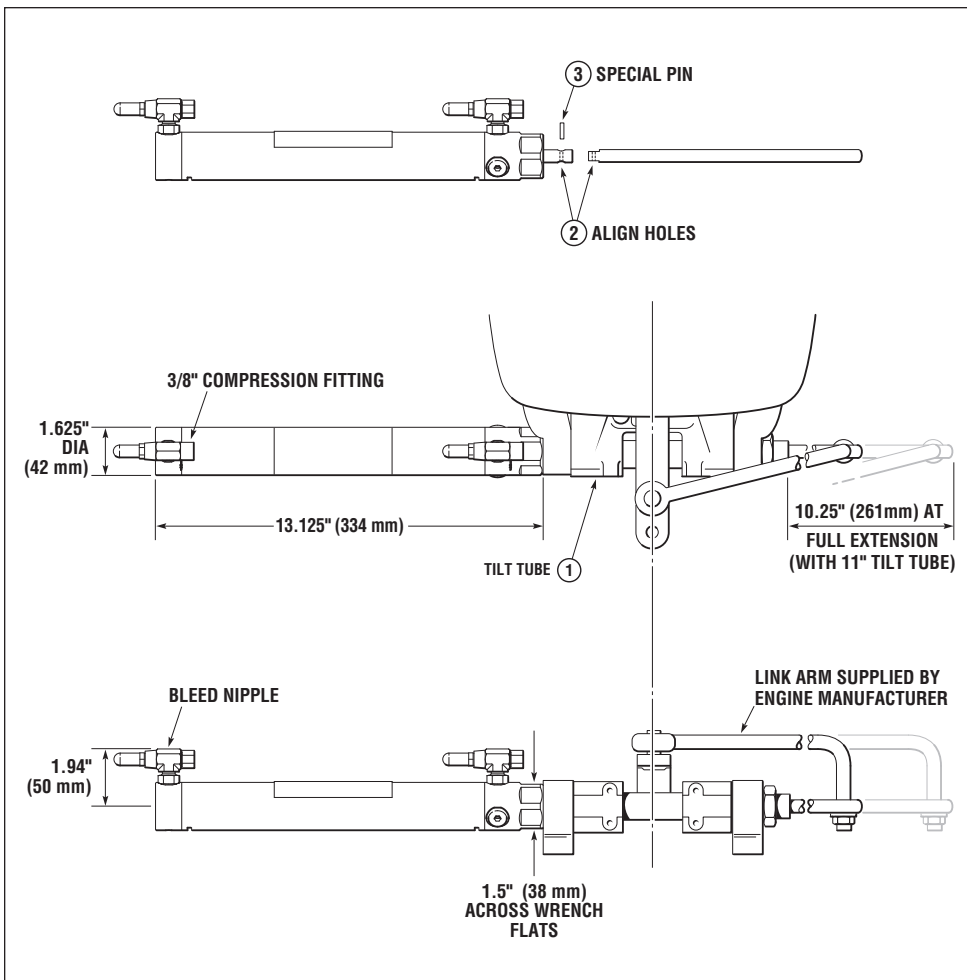

Figure 1. HC5370-3 Side Mount Cylinder.
- Slide well greased extension rod into thoroughly cleaned and rust free engine steering/tilt tube. (Item 1, Figure 1).
- Attach the cylinder rod end to the extension rod by inserting it into the mating hole of the extension rod (Item 2, Figure 1).
- Align holes in cylinder rod & extension rod, then insert special pin (item 3, Figure 1) through the hole joining both rods together. If the holes do not line up properly, rotate the extension rod 180°.